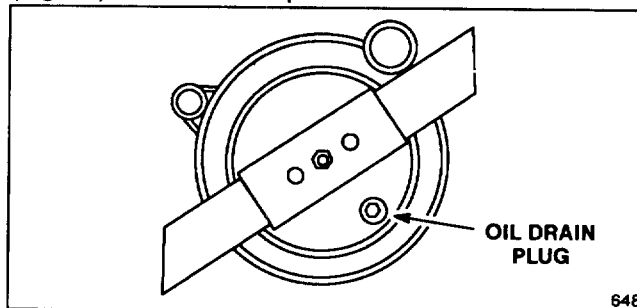

Figure 15
3. Tip mower on its right side. Remove drain plug from underside of mower using a 5/16" allen wrench (Fig. 15). Place a drain pan under mower.